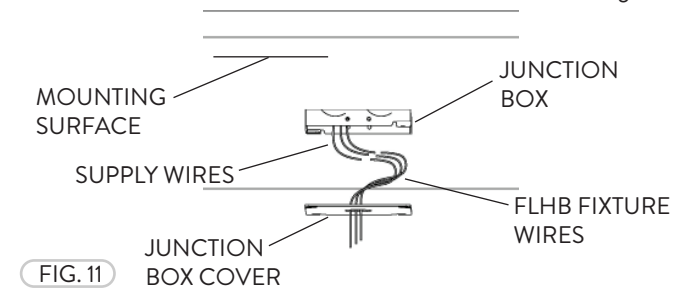

FIG. 11
- 3 After the FLHB Fixture is properly secured into place, refer to the Wiring Diagram to install the Fixture to an AC Power Supply. All connections must be made inside a J-Box (not included) (Fig. 11).